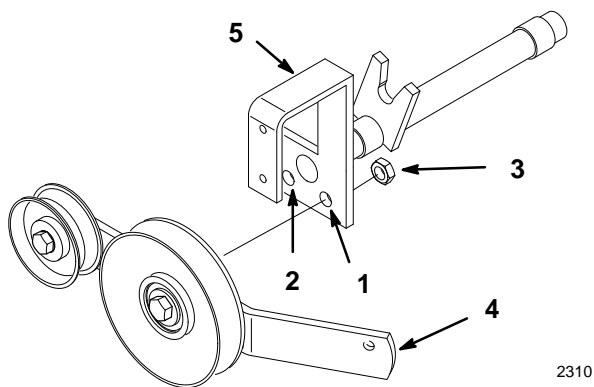

Figure 11
16. Check mounting location of idler arm in hole of idler bracket (Fig. 11). Correct location is as follows:
17. If necessary, remove 3/8" lock nut (Fig. 11) and change idler arm hole location. Secure with same lock nut.